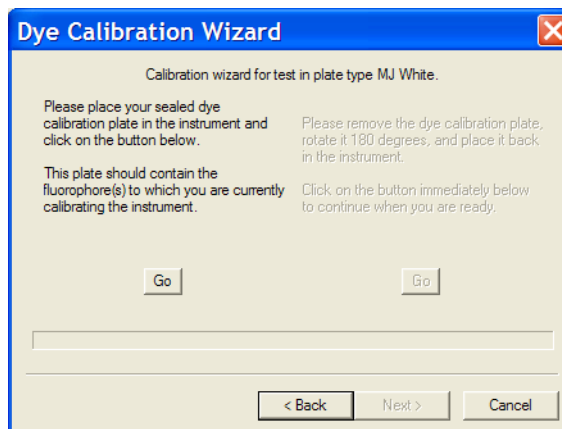

Figure 10-5. Continuing with fluorescent dyes.
15. Click *Go* to continue the calibration (see Figure 10-5).